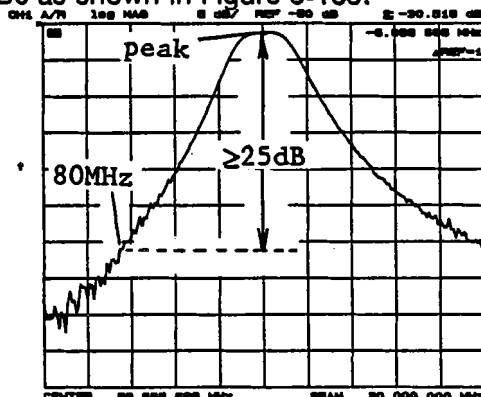

Figure 3-103. Source Second IF Converter First 86.6 MHz BPF Adjustment Example
7. Adjust A40L1, L2 (86.6MHz BPF 1 ADJ) until the level at the center frequency (86.666 666 MHz) on the Network Analyzer display is maximum, and the level at 80 MHz is < -25 dBc as shown in Figure 3-103.